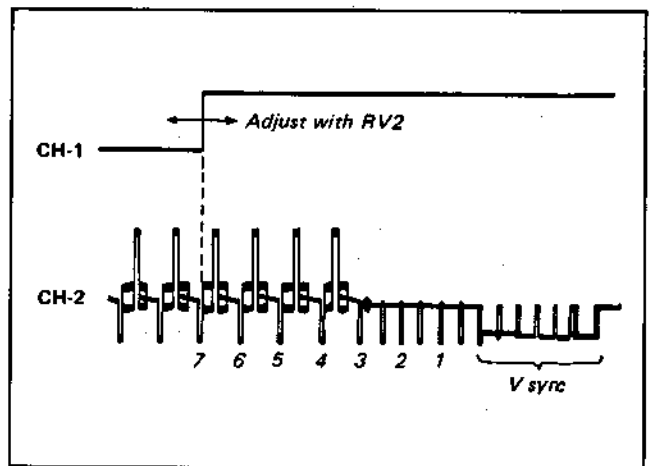

Fig. 4-3-5. RF switching position adjustment (2)
- (6) Adjust RV1 on the AS-3 board so that the phase difference between the rising section of the CH-1 waveform and the vertical sync signal of the CH-2 video signal are $7\text{ H} \pm 2\text{ H}$. (See Fig. 4-3-5.)